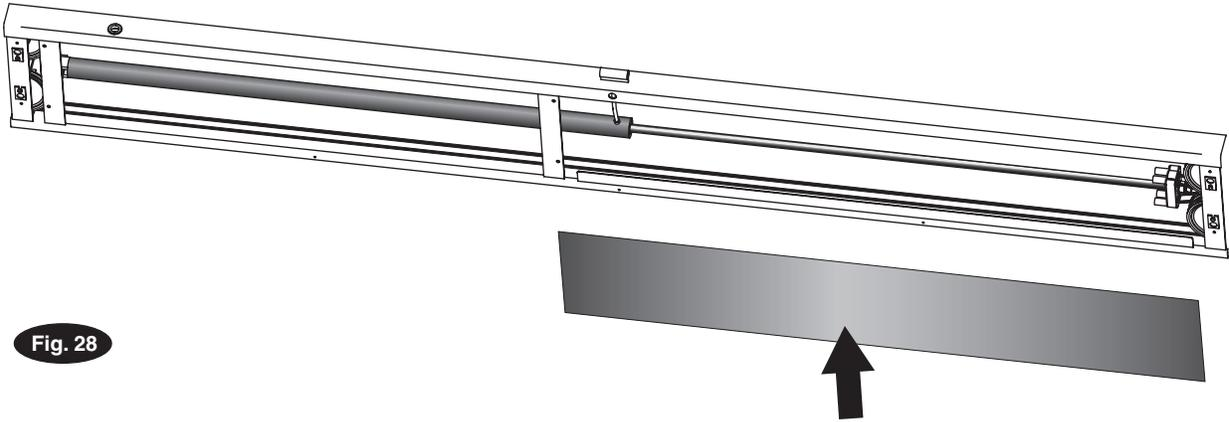
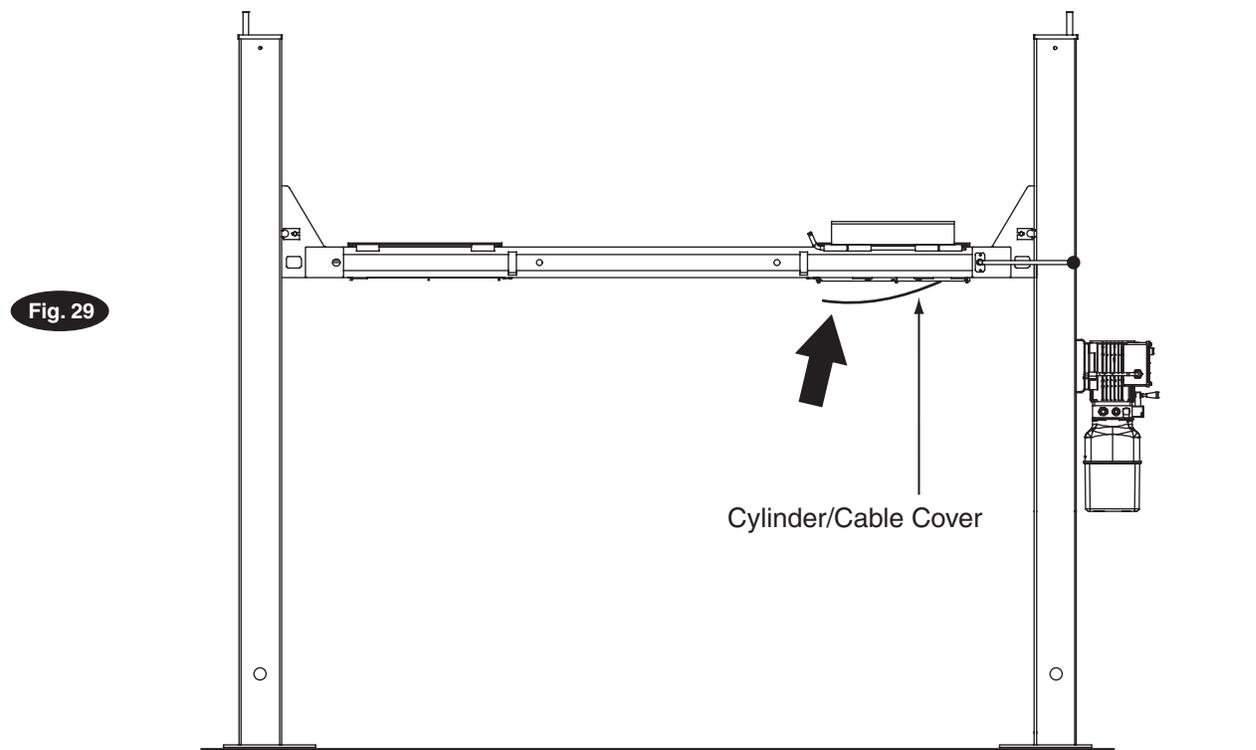
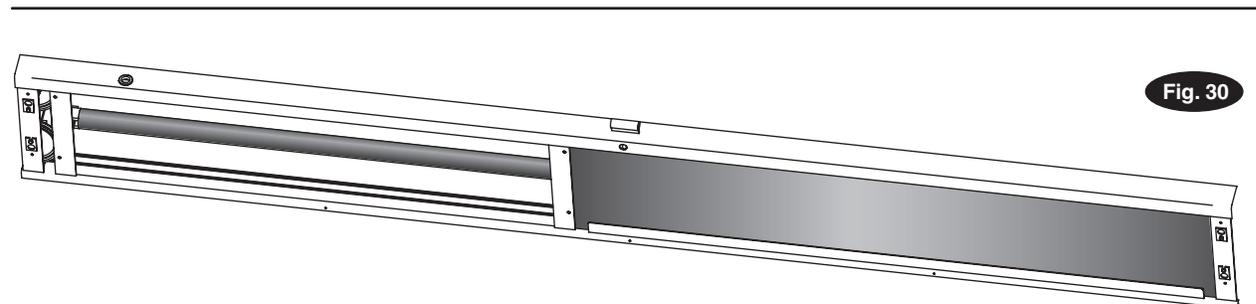

Fig. 28
Fig. 29
Fig. 30
B.) Slide cylinder cover into underside of left runway as shown in Fig. 28 and 29. You will need to bow cover slightly to get it to pop into place, Fig. 29. Fig. 30 shows underside of runway with cover in place.